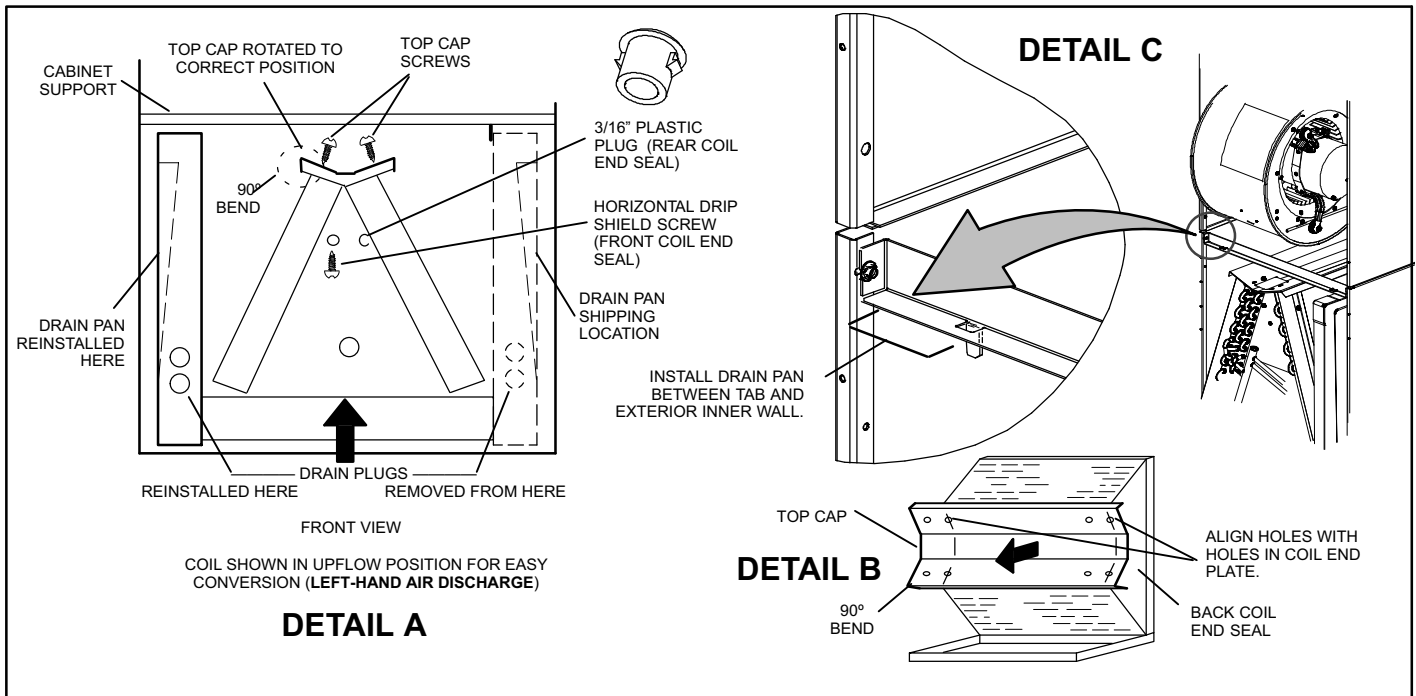

Figure 5. Field Modification for Left-Hand Air Discharge
4. Remove screws from top cap as illustrated in figure 5, detail A.
5. Remove horizontal drip shield screw located in the left center of the back coil end seal as illustrated in figure 5, detail A.
9. Rotate top cap 180° front-to-back and align with unused screw holes. Holes must align with front and back coil end plates. The top cap has a 45° bend on one side and a 90° bend on the other. The 90° bend must be on the same side as the horizontal drain pan as illustrated in figure 5, detail B.
10. From the upflow position, flip cabinet 90° to the left and set into place. Replace coil assembly. Replace coil assembly. Install drain pan between exterior inner wall and tab as illustrated in figure 5, detail C.